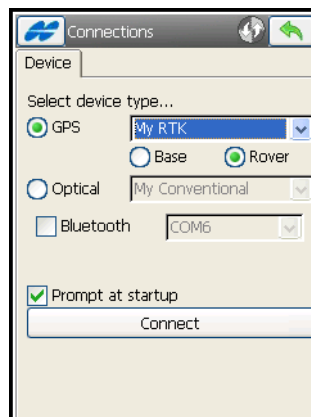

Figure 4-100. Connections
3. Tap the ok  button to save the settings for the newly created job. The Connections screen displays (Figure 4-100) if Prompt at startup is default.
1. Select the device type GPS (either base or rover) or Optical, then tap **Connect** (Figure 4-100).
3. The *Prompt for Connection* box is checked by default to display the **Connections** dialog (Figure 4-100 on page 4-79); uncheck the box if you want to enable auto connection with the device.